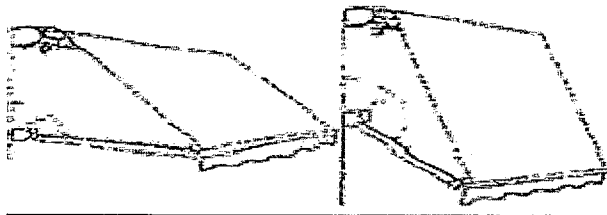

Figure 1
- d. Awnings/ shades must be as unobtrusive as possible. Awnings/ shades should be kept as close to the exterior wall of the home as possible while preserving the intended purpose of the awning/ shade. (See Figure 1)